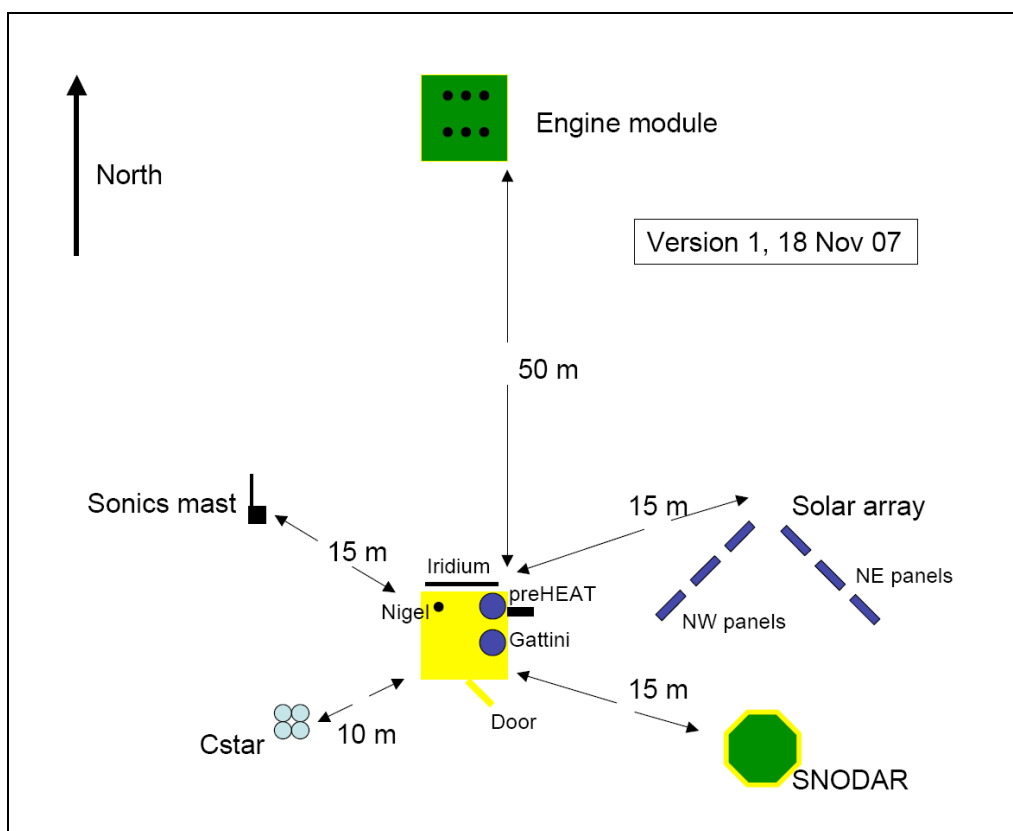
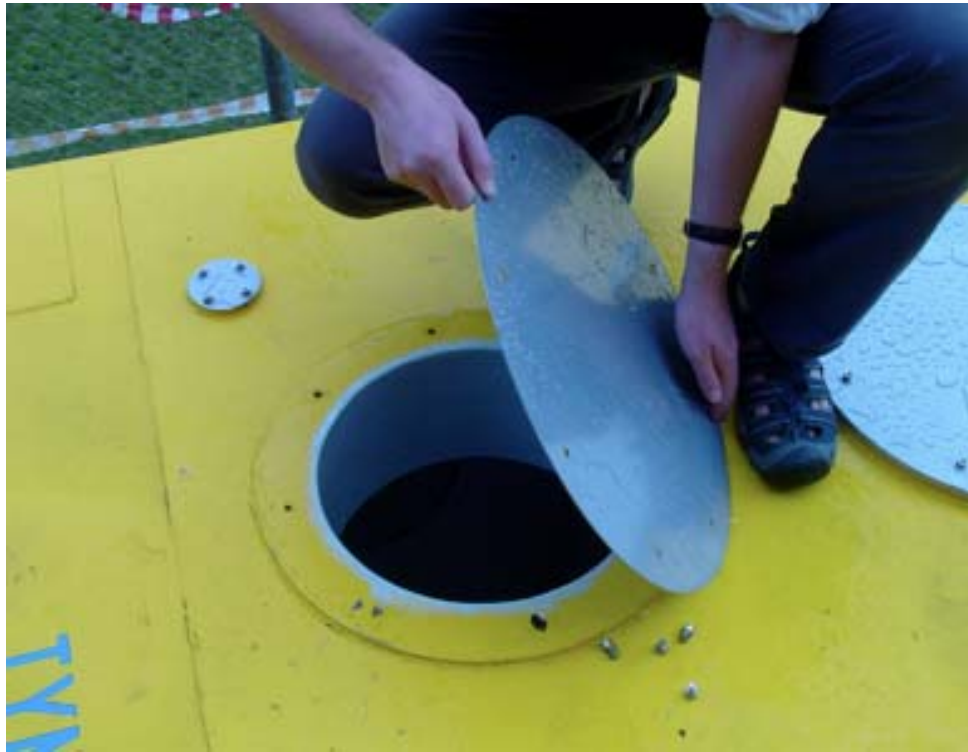

Figure 1 : A schematic of the PLATO layout at the Dome A site.
Figure 8 : Removal of the waterproof roofport for one of the Gattini cameras.
5. Remove the waterproof roofports of the 2 camera ports, as shown in Figure 1. The removal of the waterproof roofport is shown in Figure 8 below.